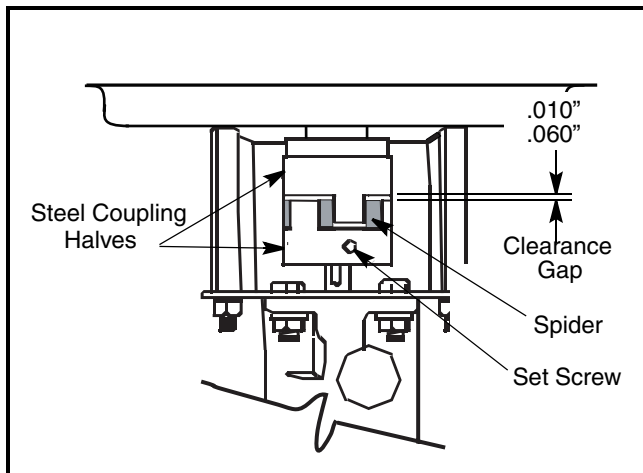

FIGURE 5
29. Slide the pump coupling half towards the engine coupling half until there is a .010" to .060" clearance/gap between the spider bushing and the engine coupling half. Use a feeler gauge between the spider bushing and the engine coupling half. Tighten engine coupling half to the pump shaft. Torque set screw to 78 in-lbs. See Figure 5.